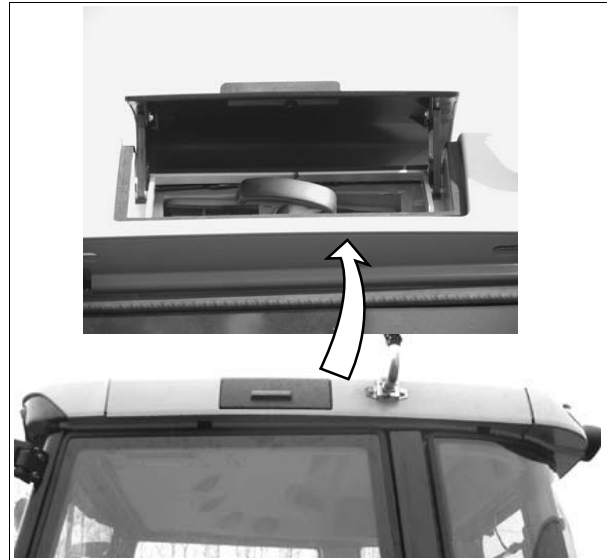

Fig. 2.
1. To gain access to the cab air filter, open the hatch on the left-hand side of the cab roof fig. 2.